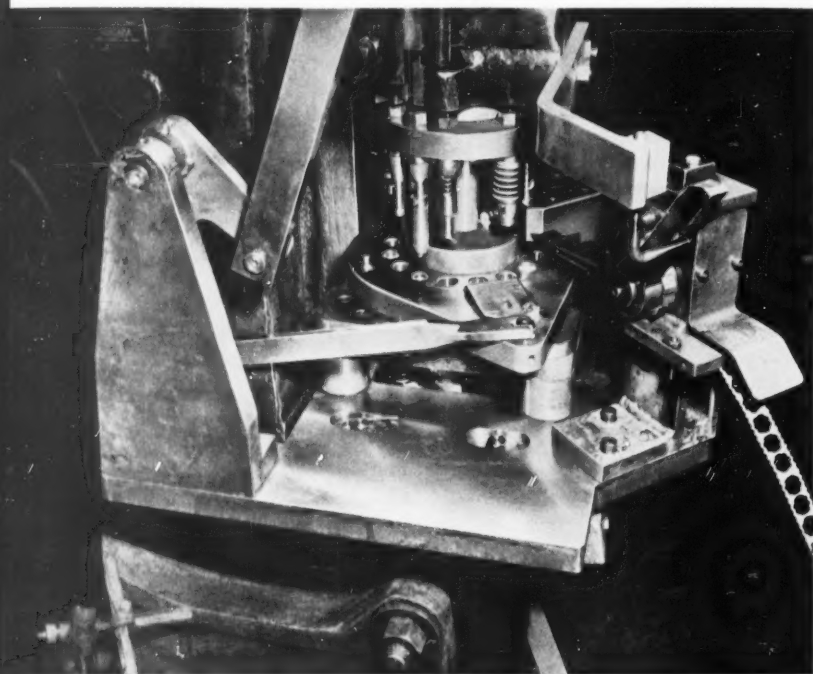

Fig. 1. Close-up view of die for producing brass ferrules at the rate of 5000 per hour on a 28-ton press
**O**UTER ferrules for the electric cord protectors furnished with General Mills "Tru-Heat" flat irons are produced at the rate of 5000 per hour on an eight-station progressive die equipped with a rotary indexing, work-carrying plate. The ferrules, which retain the protecting springs, are made from deep-drawing quality brass (A.S.T.M. Grade B36), 0.009 inch thick, on a Niagara 28-ton press, as seen in Fig. 1.